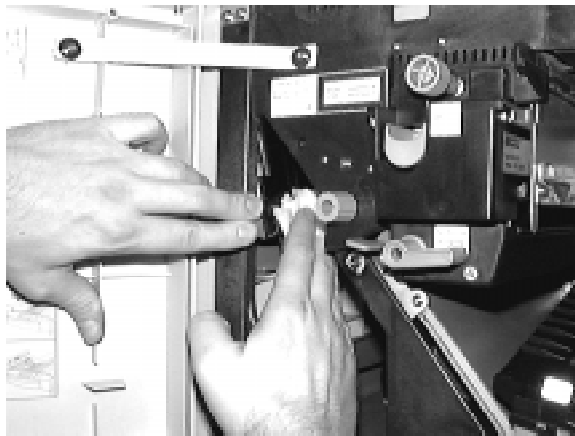

Figure 5-4 Cleaning Reversing area
2. Hold lever 5 to the left to open the reversing unit area. See Figure 5-4.